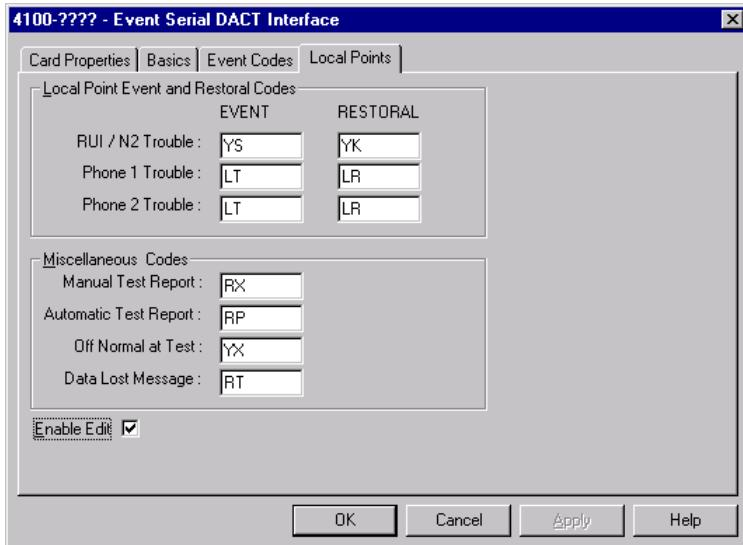

Figure 6-10. Local Points Tab
1. Click on the Enable Edit button at the bottom of the screen (refer to Figure 6-10).